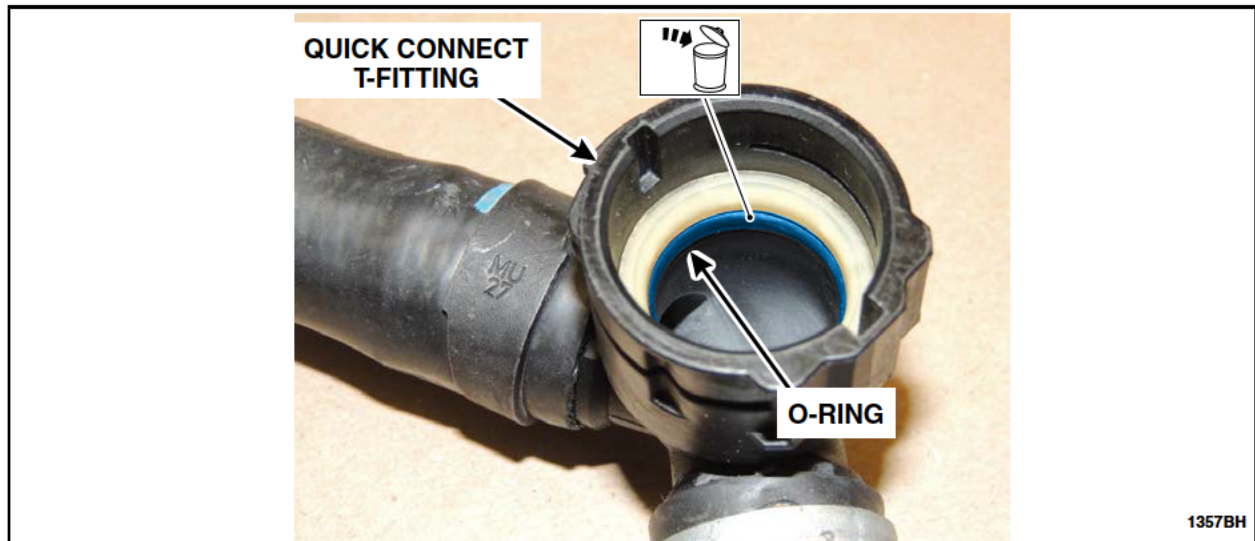

FIGURE I5
7. Remove and discard the o-ring inside the quick connect T-fitting. See Figure I5.
9. Lubricate the new o-ring with coolant and install it into the quick connect T-fitting. See Figure I5.